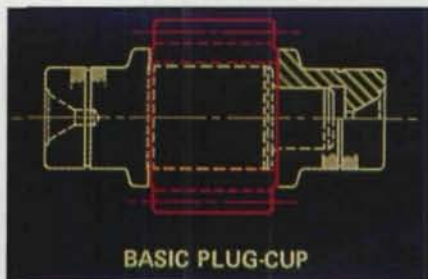

Fig. 6 — Gears should be shaved from their own centers, but if this is not possible, hardened and ground arbors having large safety centers should be used.
**Mounting the Work Gear:** The work gear should be shaved from the same locating points or surfaces used in the pre-shave operation. It should also be checked from these same surfaces. Locating faces must be clean, parallel and square with the gear bore. Gears with splined bores may be located from the major diameter, pitch diameter or minor diameter. When shaving form centers, the true center angle should be qualified, and the surfaces should be free of nicks, scale and burrs. Locating points of work arbors and fixtures should be held within a tolerance of .0002". The arbor should fit the gear hole snugly. Head and tailstock centers should run within .0002" for dependable results. Gears should be shaved from their own centers whenever possible. If this is not possible, rigid, hardened and ground arbors having large safety centers should be used (Fig. 6).